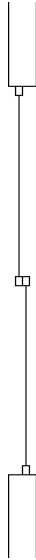

FIGURE 4.71: The finished sliding glass doors
28. Press ↵ to restart the LINE command, and repeat the procedure described in steps 25 through 27 for the other door panel, being sure to start the line at the frame section nearest the other jamb. The finished opening should look like Figure 4.71.